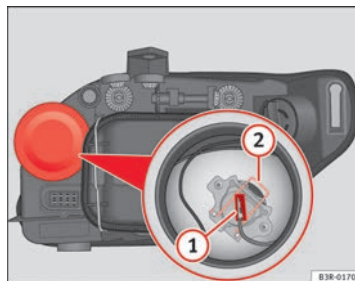

Fig. 192 Main beam headlights
- Remove the connector → fig. 192 (1) from the bulb.
- Press the spring → fig. 192 (2) inwards and to the right.